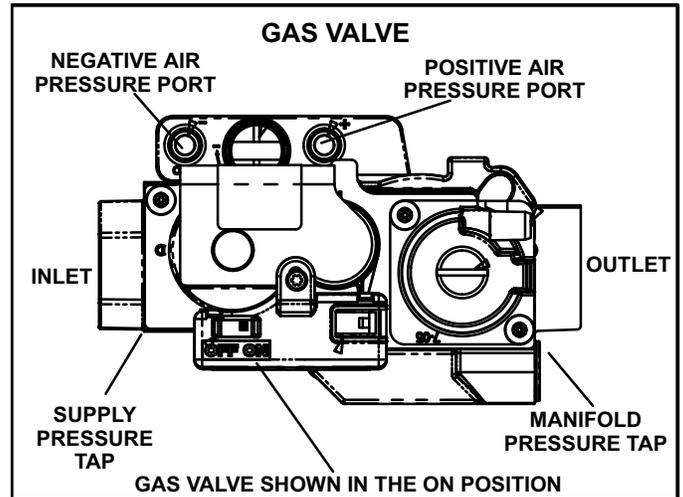

FIGURE 52
Gas Valve Operation (Figure 52)
- 6 - Move gas valve switch to **OFF**. See figure 52.
- 8 - Move gas valve switch to **ON**. See figure 52.
- 2 - Remove the threaded plug from the outlet side of the gas valve and install a field-provided barbed fitting. Connect measuring device positive "+" to barbed fitting to measure manifold pressure. See figure 52 for manifold location.